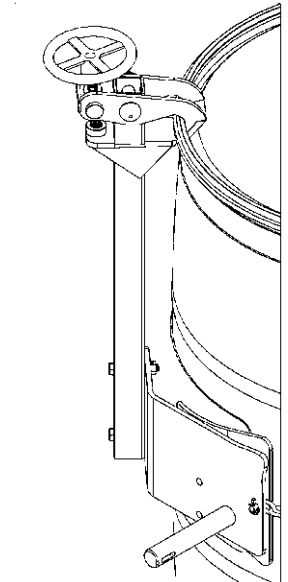

Figure 2.2
- The **Top Rim Clamp** (Part # 4560M-P) grips the upper rim of your drum to prevent it from slipping through the drum holder (see figure 2.2). To handle a 55-gallon plastic drum with top rim, you **must** install either the Bracket Assembly or the Top Rim Clamp. You can use the Top Rim Clamp with a 55-gallon plastic, steel or fiber drum with suitable top rim.